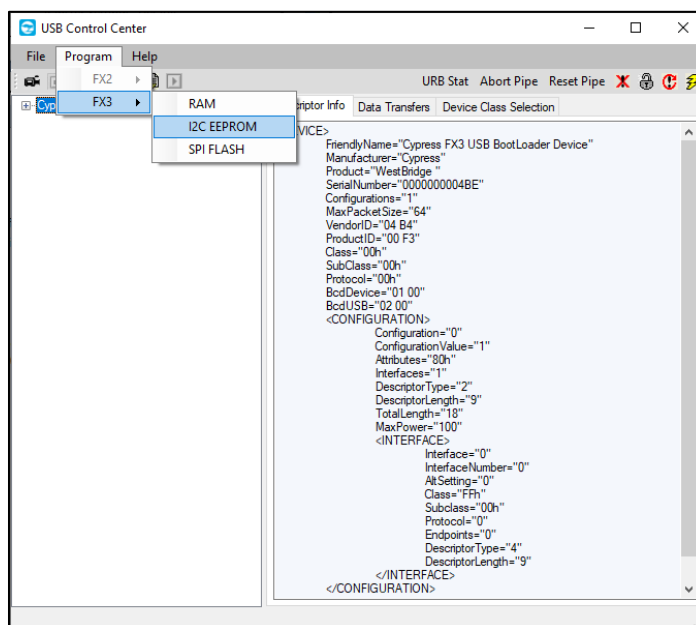

Figure 4.2. Selecting FX3 I2C EEPROM in USB Control Centre
5. Press the SW5 button to reset the FX3 chip. Figure 4.2 shows the boot loader device screen.